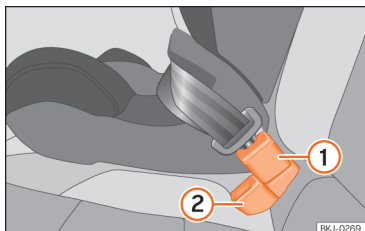

Fig. 28 Position of the belt buckle on the rear seat
»» **Fig. 28** ① behind the side seat's belt buckle »» **Fig. 28** ②.
- Plug the middle seat's seat belt into the middle seat's belt buckle »» **Fig. 28** ① and make sure it clicks in place.
- For seat belts to be correctly fitted, the buckles must not be twisted »» **Fig. 28**.